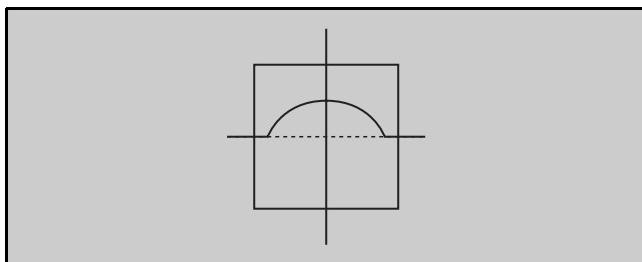

Figure 42. Symmetrical shape
10. Use the "VOL" up or down to make the curve (in the cursor) smooth & symmetrical. (See Figure 42).